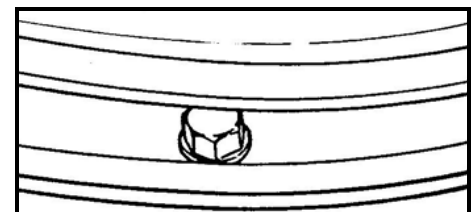

Figure 5
5. Place a nut or similar object between the flange and the lip of the bead seat band. (see Figure 5).